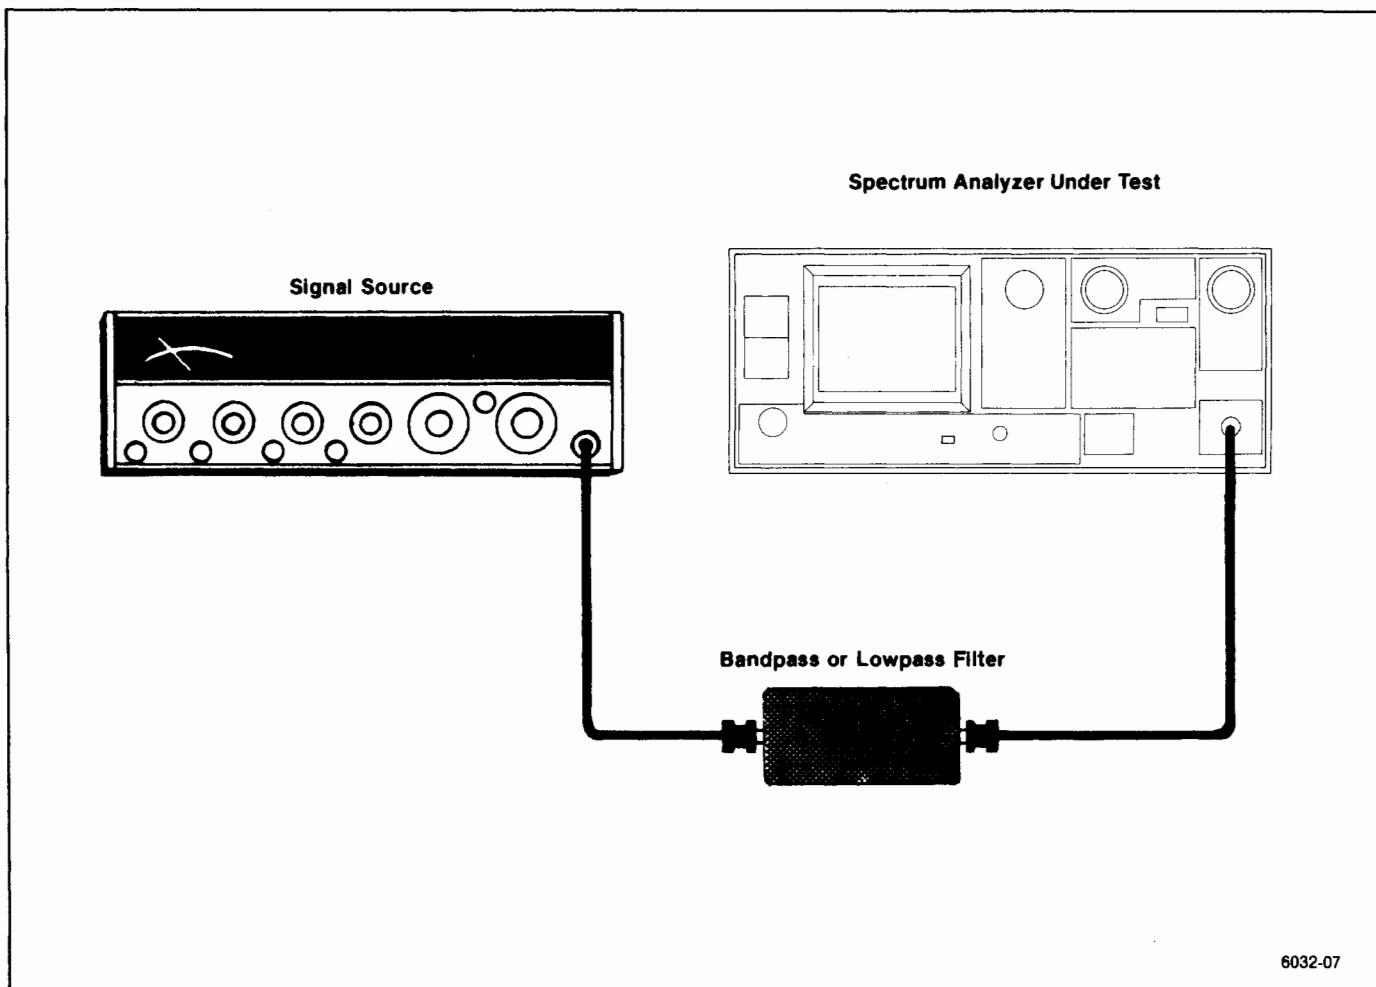

Figure 4-16. Test equipment setup for checking harmonic distortion.
a. Connect the test equipment as shown in Figure 4-16, and set the Spectrum Analyzer controls as follows:
In Figure 4-16, the filter shown must have a minimum of 40 dB rolloff to attenuate multiples of the generator frequency, and the frequency of the signal generator depends on the frequency characteristics of the filter.